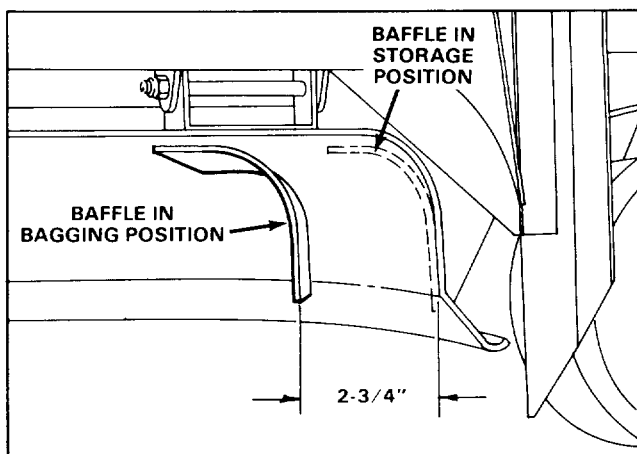

Figure 1
1. Position baffle inside cutting deck opening so end is aligned with edge of deck opening and against front wall and ceiling. Clamp baffle to front wall of deck in storage position (Fig. 1).